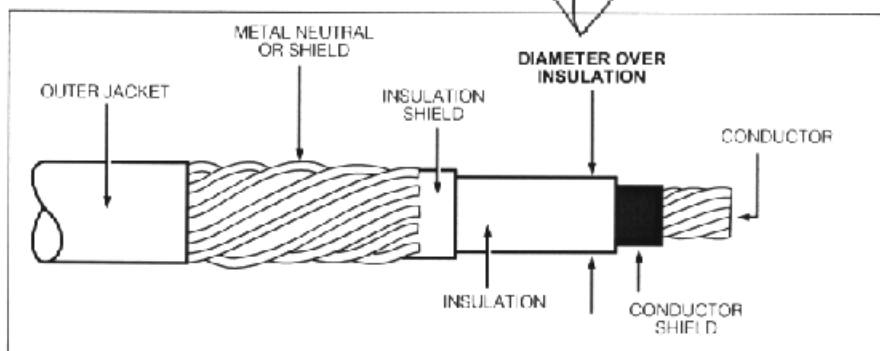

Figure 4.
STEP 1: Determine the cable's diameter over the electrical insulation as shown in Figure 4 (including tolerances). Then identify a cable range from Table 3 that brackets the minimum and maximum insulation diameters. Select the CABLE RANGE CODE from the far right column.